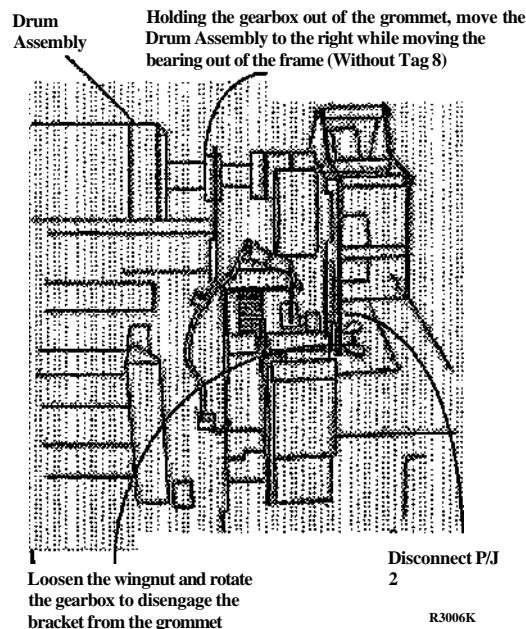

Figure 4. Moving the Bearing (Right Side)
8. (Figure 4); Move the bearing out of the Xerographic Module Frame (Right Side).